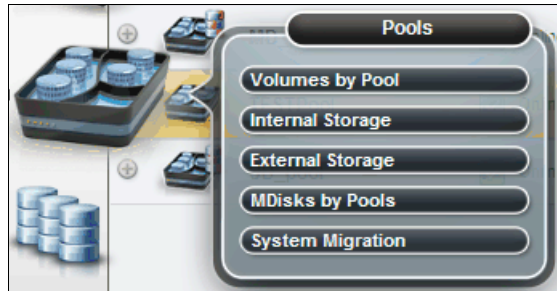

Figure 9-15 Pools menu
1. Hover your cursor over the Pools icon. The system displays the Pools menu (Figure 9-15).